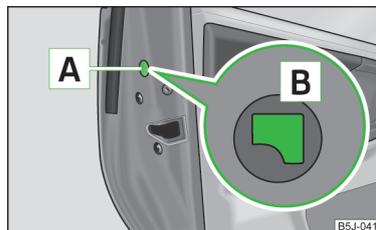

Fig. 31
- › Remove the cover **A** » Fig. 31.